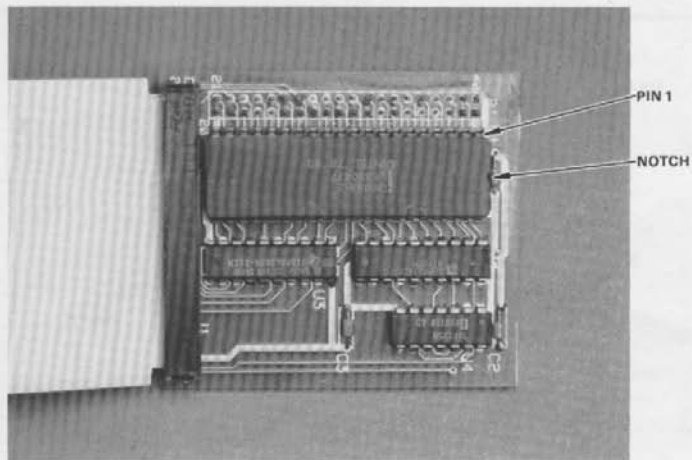

Figure 8. Plugging in 8088 Processor
7. Immediately plug the 8088 processor into the daughterboard as shown in Figure 8. Orient the processor so that the notch is pointing away from the I/O cable's connector. *Be certain that all pins are aligned with socket holes before pressing the chip into place.*